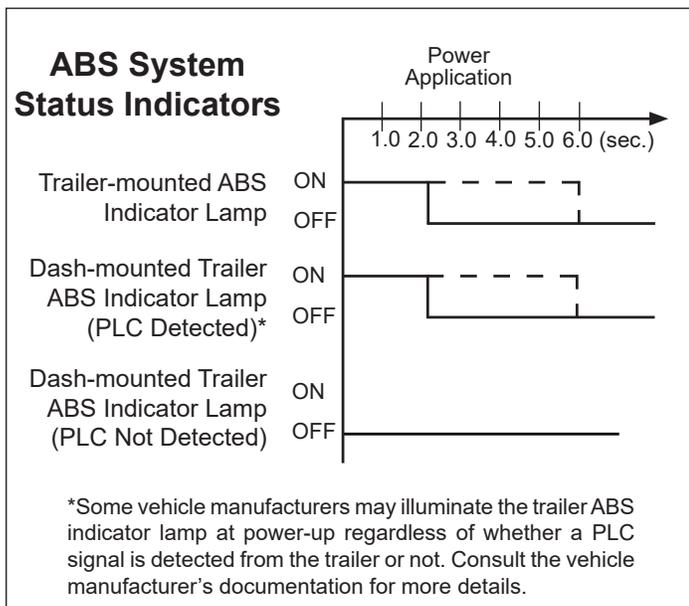

Figure 9 – Trailer ABS Lamp Power-Up Sequence
At power-up, with no active DTCs, the trailer ABS indicator lamp will illuminate for approximately two (2) to six (6) seconds as a bulb check and then turn off. See Figure 9.